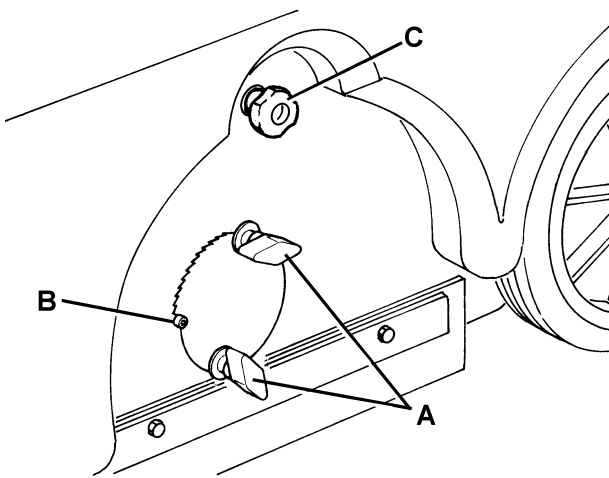

Figure 6
1. Drive the machine on a level floor and press the pedal brake (26), if equipped.
2. Turn the ignition key (71) to "0".
3. Loosen the knobs (A, Fig. 6) on both sides of the machine.
4. Move the height variation indicators (B, Fig. 6) until the main broom is at the maximum distance from the ground. Tighten the knobs (A, Fig. 6).
5. Open the hood (7).
6. On the left side of the machine, loosen the knob (C, Fig. 6).
13. Tighten the knob (C, Fig. 6).